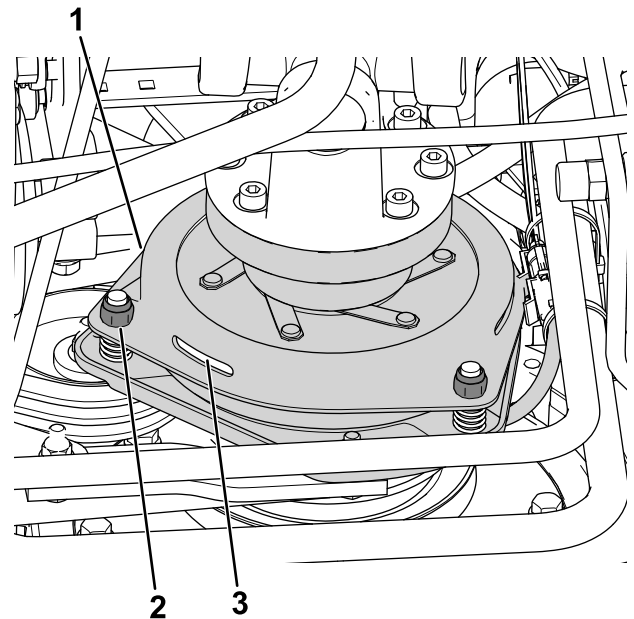

Figure 76
3. Adjust the air gap so that a 0.3 mm (0.012 inch) feeler gauge slides in between the clutch lining and friction plate with light pressure (Figure 76).
**Note:** You can decrease the gap by turning the adjusting nuts clockwise (Figure 76). The maximum service gap is 0.6 mm (0.024 inch). Adjust all 3 air gaps to 0.4 mm (0.012 inches).